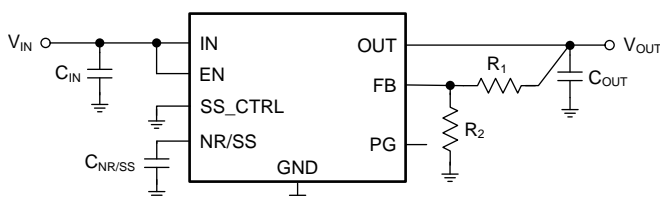

图 38. Adjustable Operation
The output voltage of the TPS7A9201 can be adjusted from 0.8 V to 5.2 V by using a resistor divider network as shown in 图 38.
(1) R₁ is connected from OUT to FB; R₂ is connected from FB to GND; see 图 38.